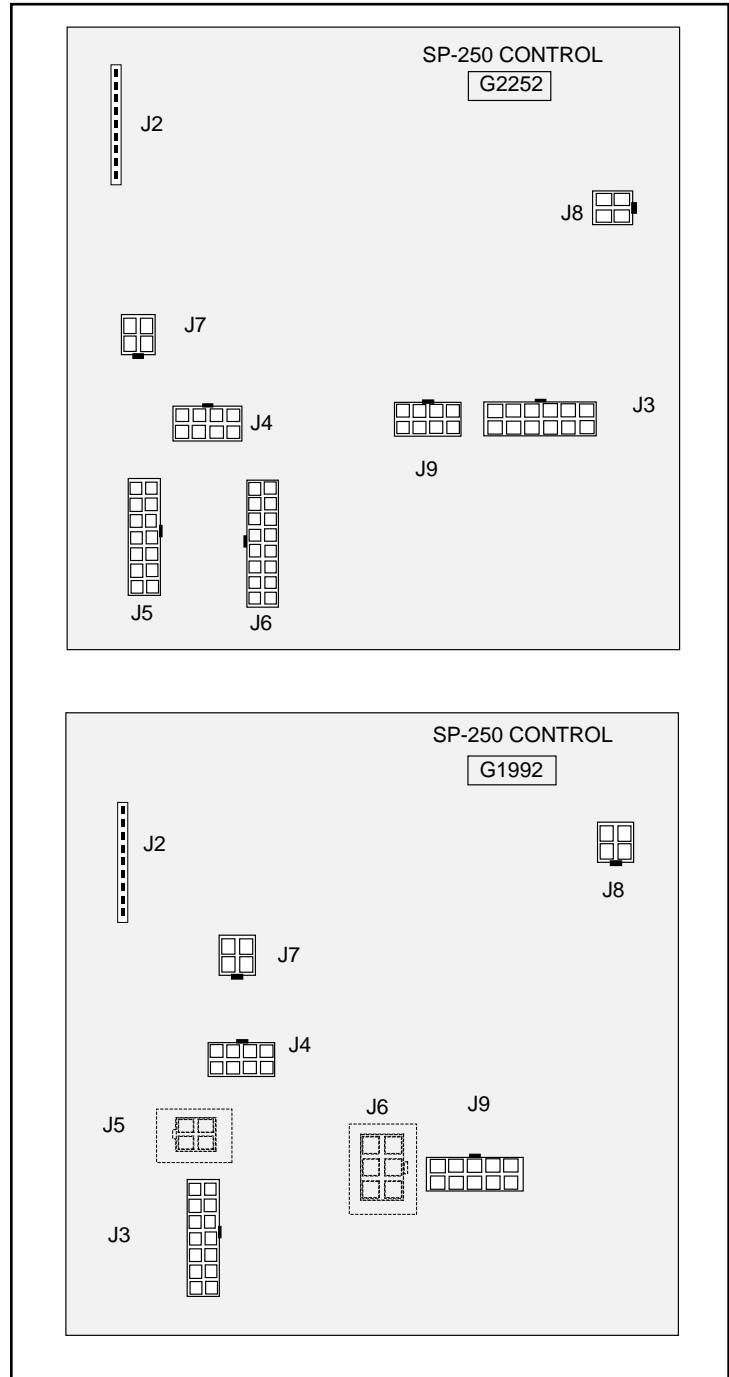

FIGURE F.11 - Wiring Harness and Molex Plug Locations.
3. Disconnect all wiring harness plugs and Molex Plugs connected to the Control Board. See Figure F.11.